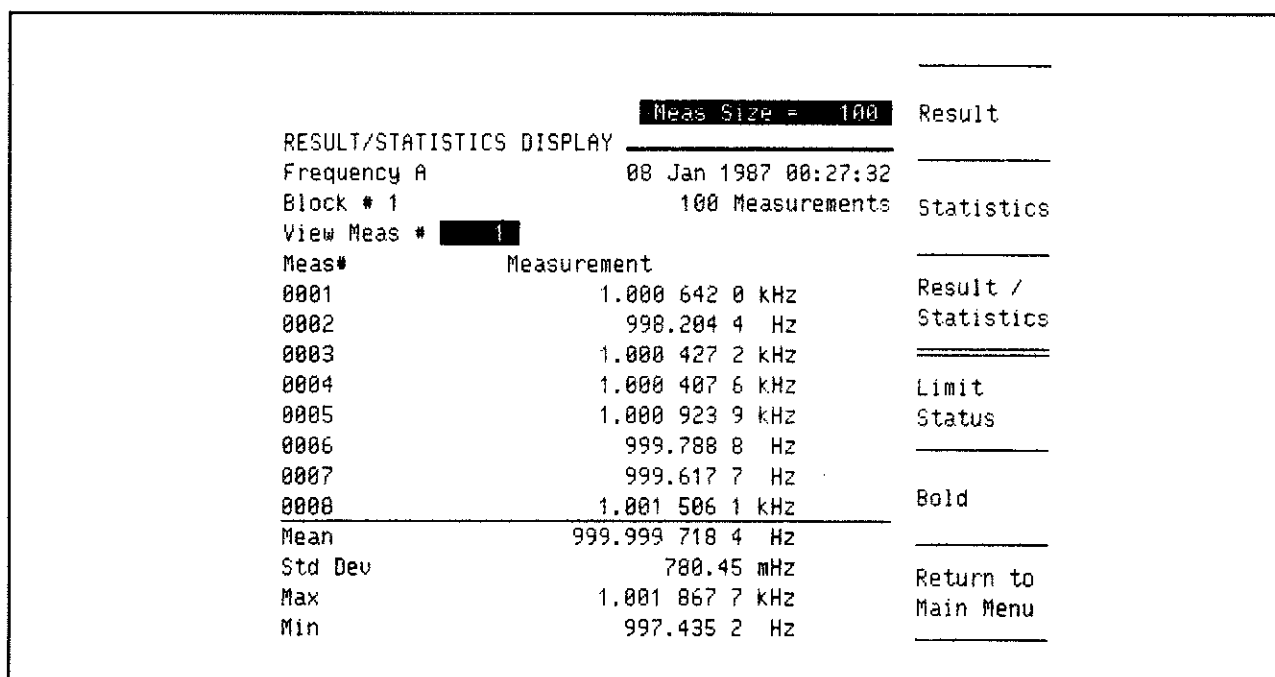

Figure 3-17. Numeric Results Screen
- A. Adjust A2R12 such that the "Min" frequency indicates values as low as possible yet all greater than 900 Hz. See Figure 3-17 for an example of the display being referenced.